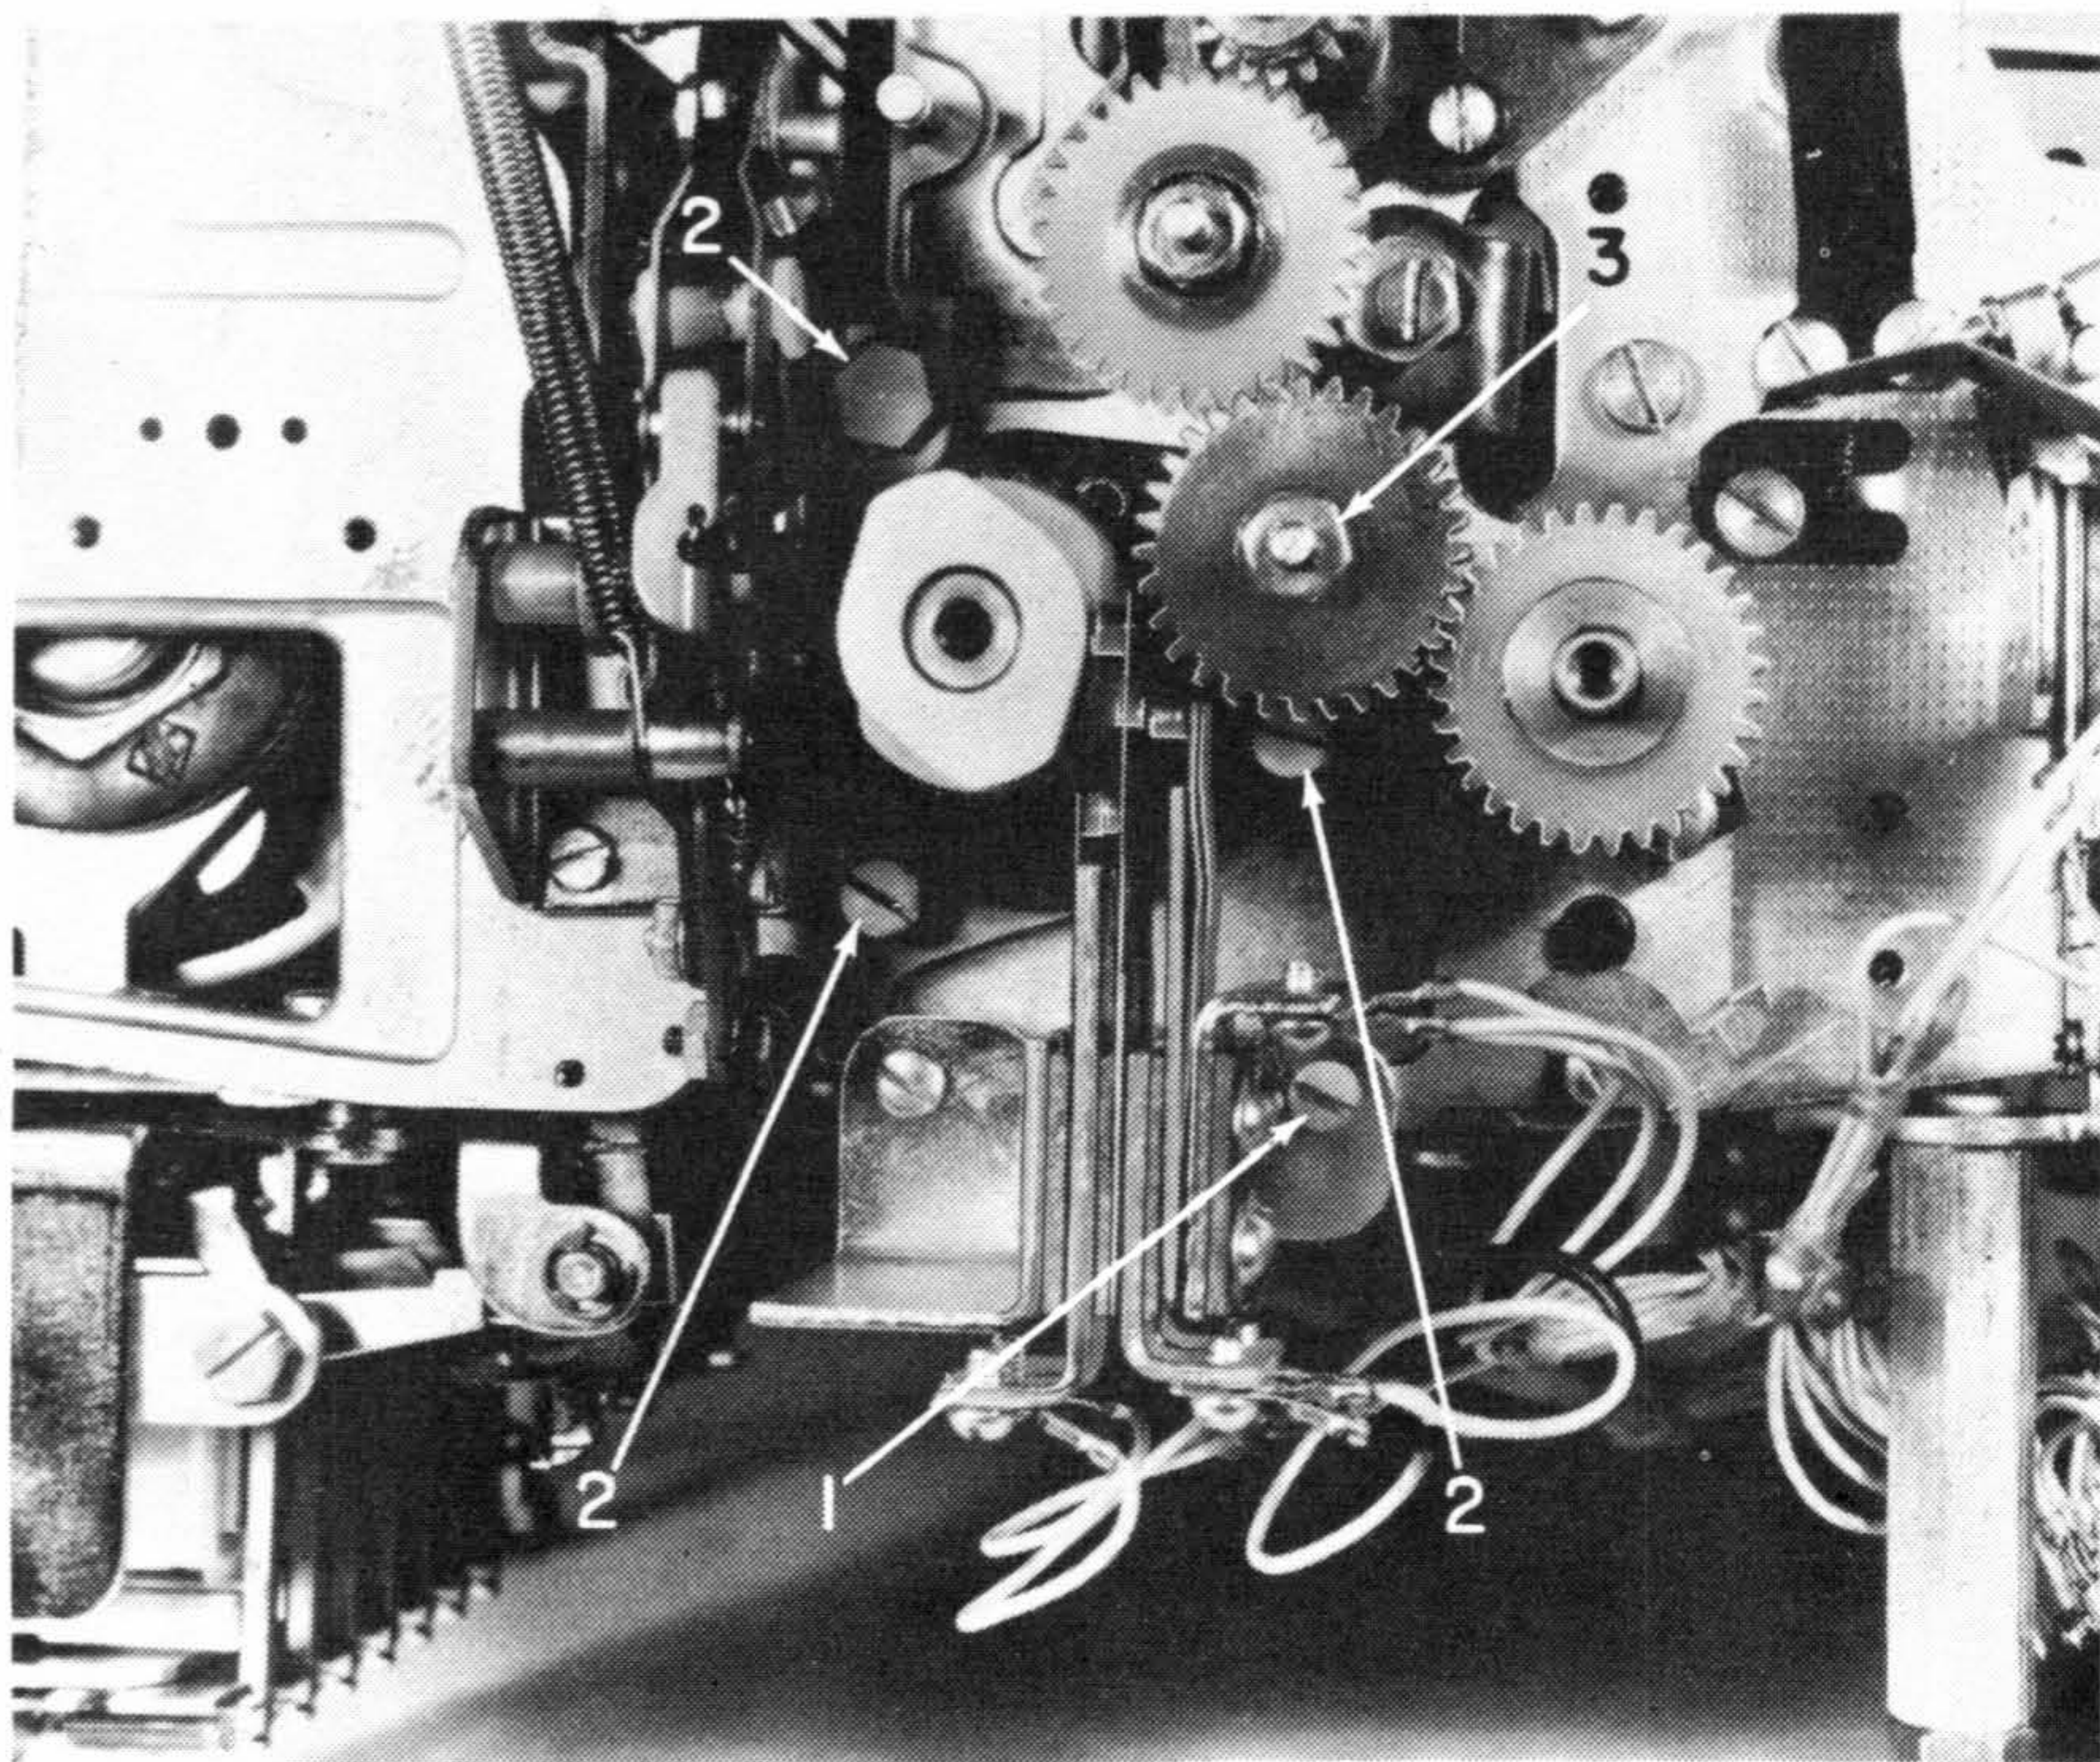

Figure 9. Belt Replacement
8. Remove the front screw from the C1 and C2 contact assembly (#1, Figure 9) and swing the assembly down.
9. Remove the bronze intermediate gear (#3, Figure 9).
10. Remove the three bearing plate screws (#2, Figure 9) and remove the bearing plate.